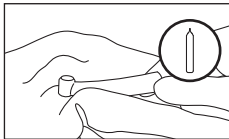

Fig. 15
- 4) Wipe the exterior of the handpiece, wrench clean using a cloth moistened with disinfectant or ethanol with a concentration of 60-90%. (Fig. 15)